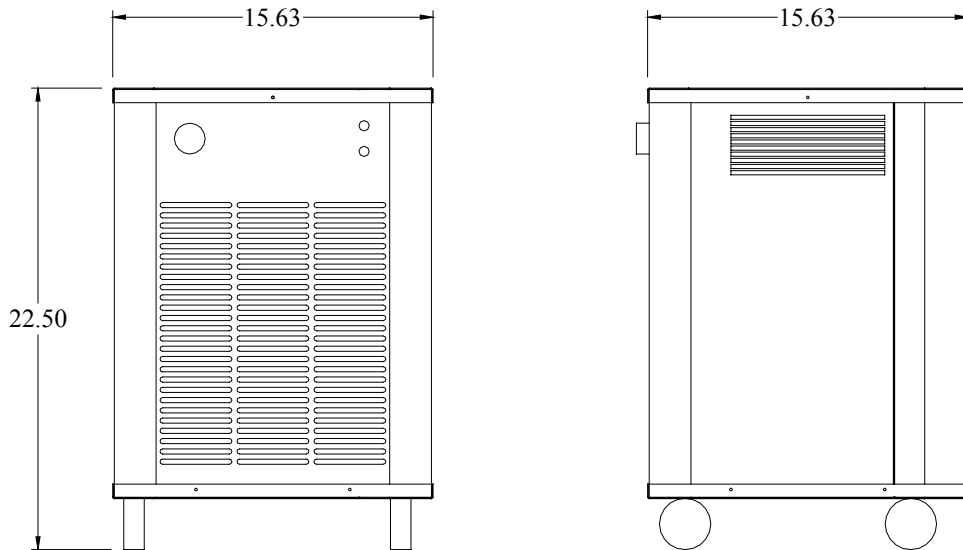

FIG. 1
**DIMENSIONS:** Cabinet – 15 5/8”L x 15 5/8”W x 22 1/2”H. See Fig. 1.
Remove your PM-400 Air Cleaner carefully from the box. Remove the plastic bag and check that all components are included. The PM-400 Air Cleaner is shipped assembled and includes everything shown in Fig. 1.